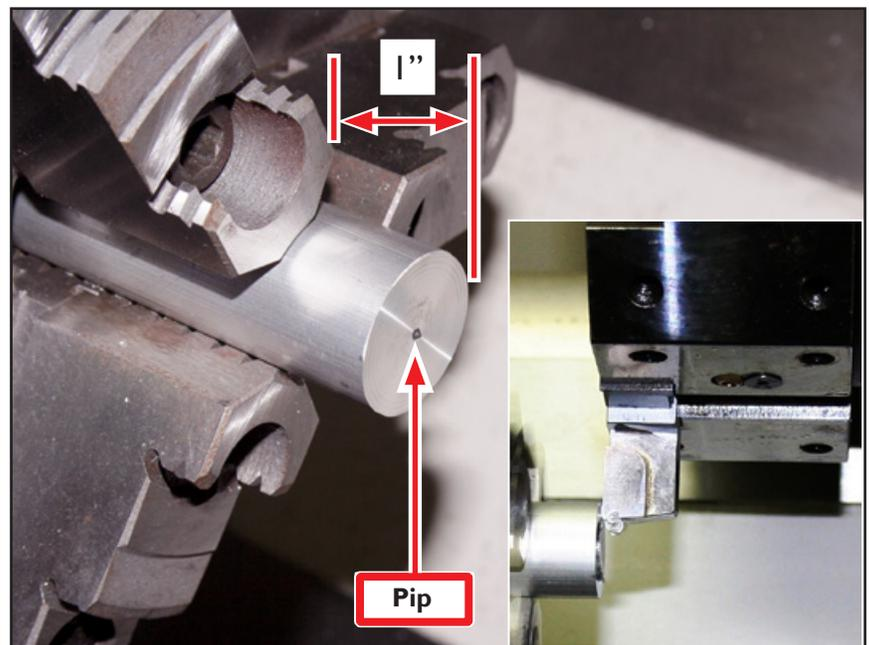

Figure 25
- Insert an aluminium Test Piece (included) into lathe spindle, leaving 1" protruding; tighten spindle (see **Figure 25**).
- Position tool in an upward facing orientation as shown in **Figure 25 inset**.
- Face the Test Piece @ 500 RPM until pip forms at center of piece (see **Figure 25**).